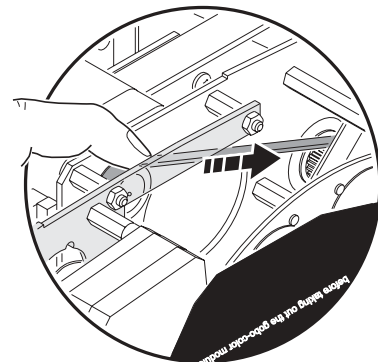

**Figure 18: Retracting the gobo animation wheel**
6. Flip the head top side up again. To avoid bending the gobo animation wheel when you remove the module, move the wheel in towards the center of the module by inserting a finger and rotating the positioning belt idler pulley at the top of the module as shown in Figure 18.